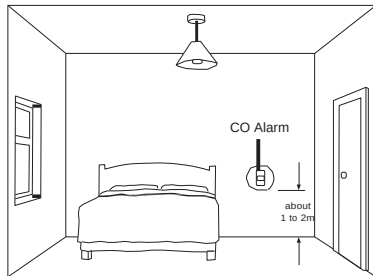

Figure 3
3.32 If locating the CO Alarm in a bedroom or in rooms remote from a fuel burning appliance (see figure3)